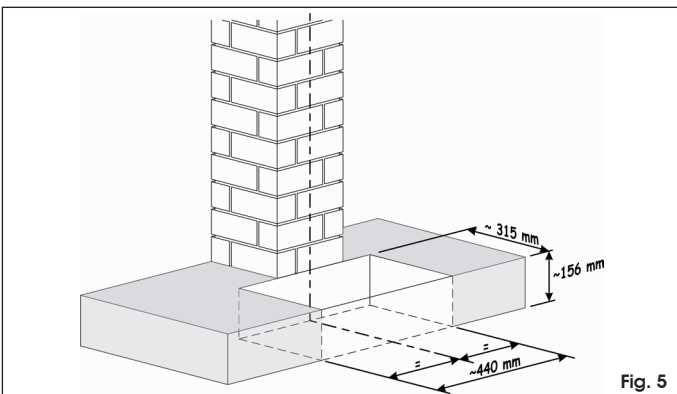

Fig. 5
- Dig out a hole for the foundation box as shown in Fig. 5.